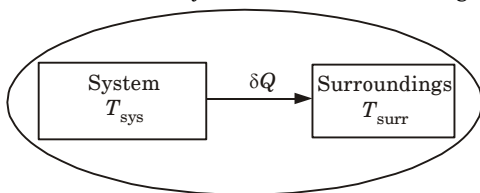

Fig. 2.24.1.
1. Let's consider an isolated system as shown in the Fig. 2.24.1.